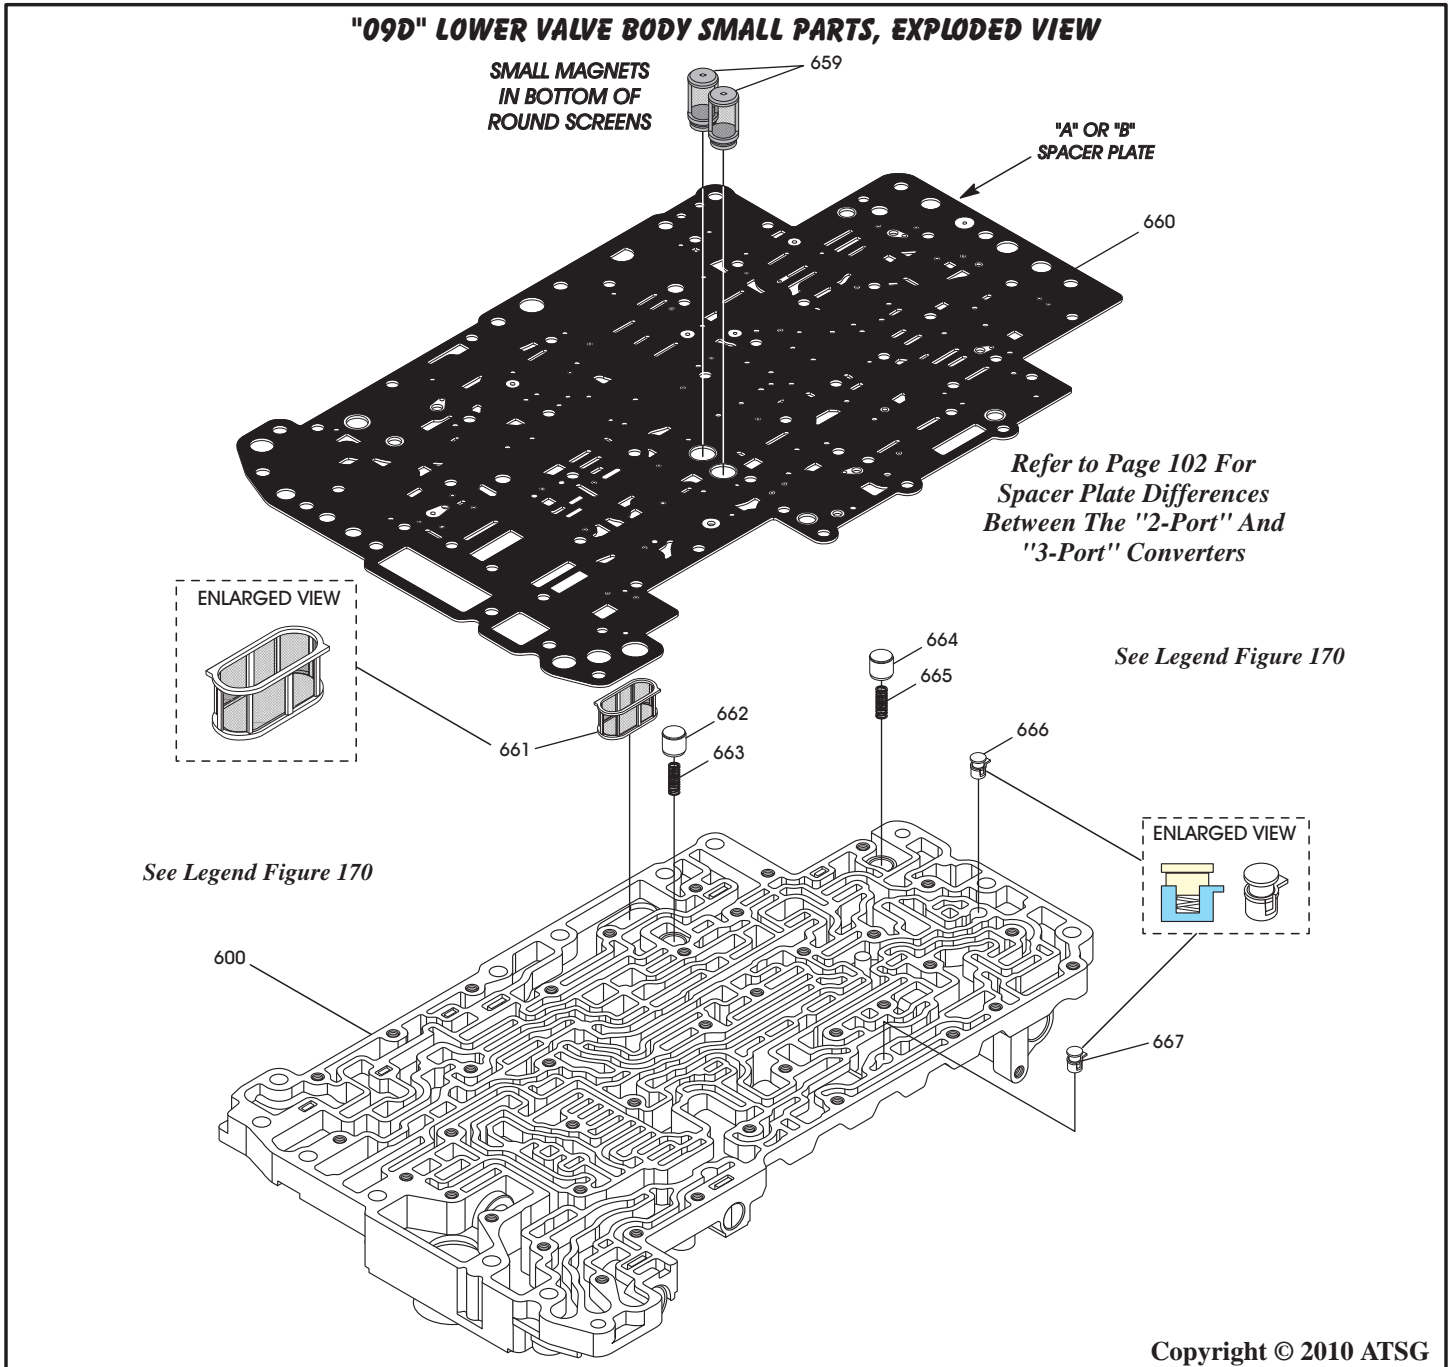

Figure 172
13. Assemble the worm track small parts into lower valve body *exactly*, as shown in Figure 172.